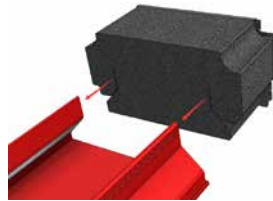
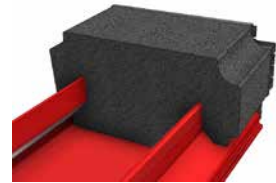

Fig C2
Fig C3
- Slide the foam block onto the end of the cover that will be against the panel. (Fig. C2 and Fig. C3).